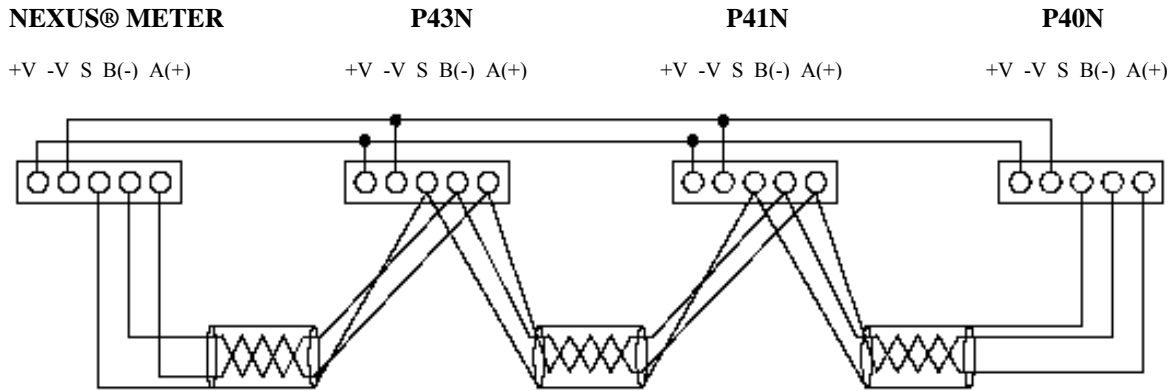

Figure 6.2: P40N Display Daisy Chain
- One cable (housing two-wire RS485 and two-wire power wires plus shield) is used to connect the displays. One port of the Nexus® meter supports 12 VA. Each P40N, P41N or P43N requires 3.3 VA (maximum 3.8 VA). The Master display (P40N) is the master in communication. The Amp, Power and Nexus® devices are slaves in communication. Therefore, the Master display (P40N) should be at the end of the daisy-chained units as shown in Figure 6.2.
**NOTE:** The power lines in figure 6.2 are shown separately, for clarity. All lines are actually on one cable.